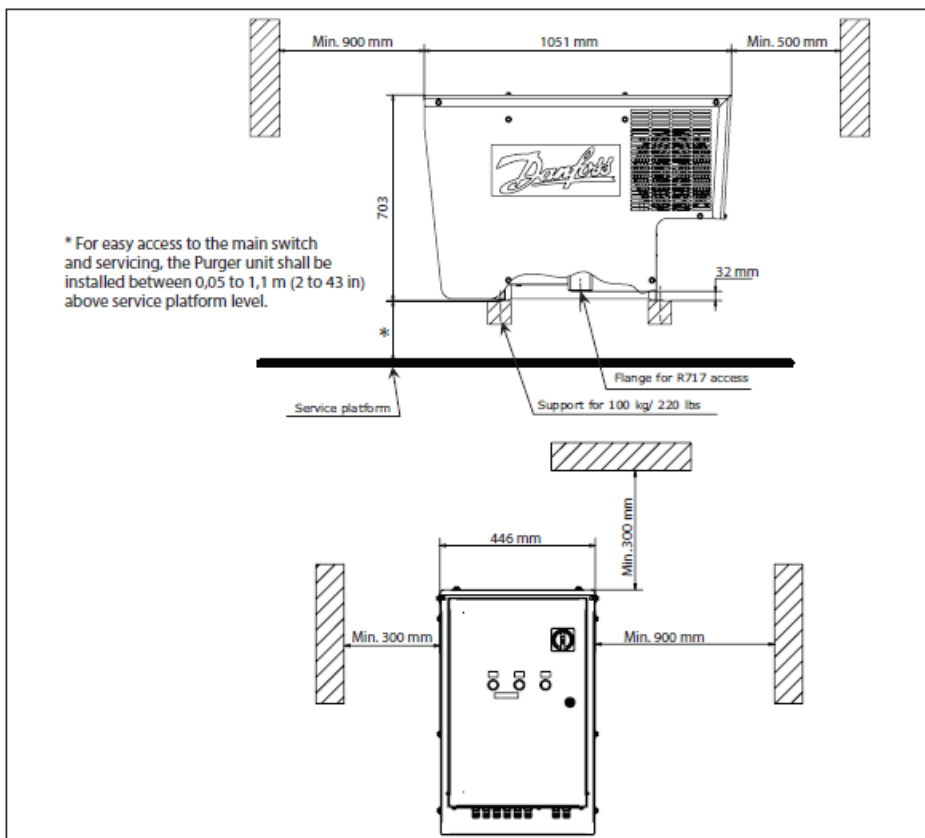

Fig. 12 Installation dimensions
- Install the unit on an even horizontal base 0.05 to 1.1 meter (2 to 43 in) above a service platform with sufficient support and allow the purger subframe to be bolted to the support (see example in Fig. 12).
- Maintain recommended distances in all directions (Fig. 12) to allow fan cooling and servicing.